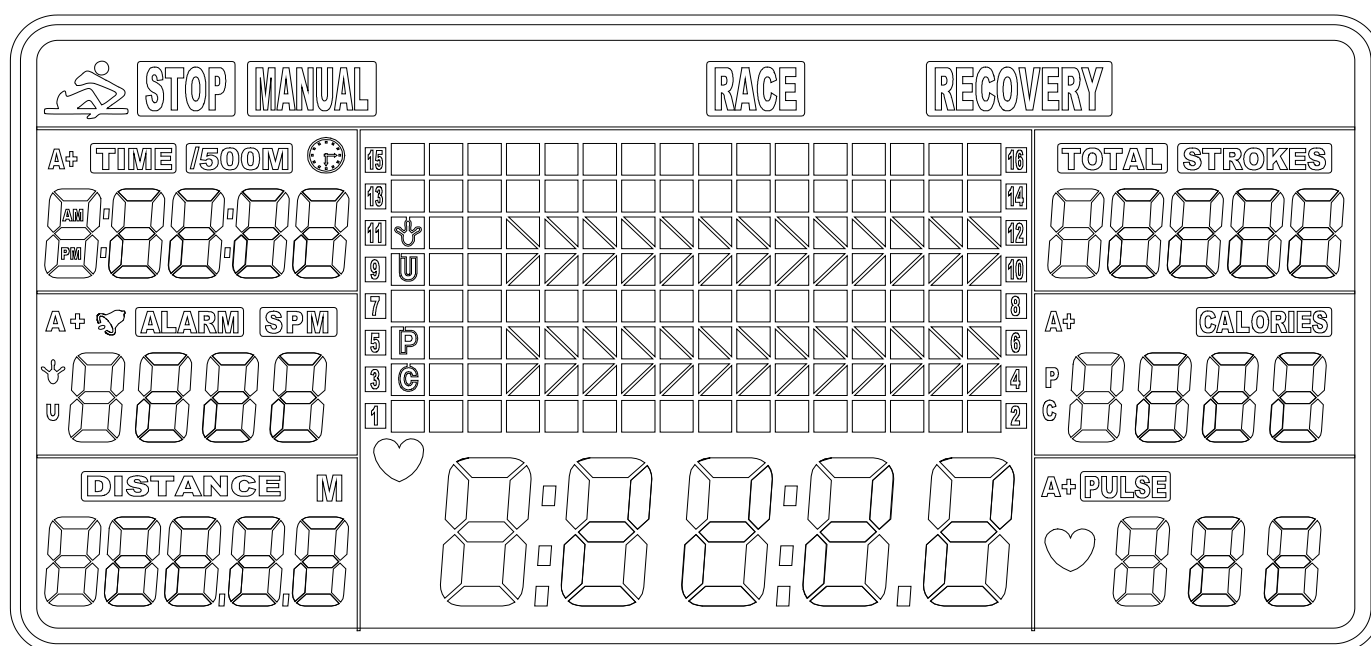
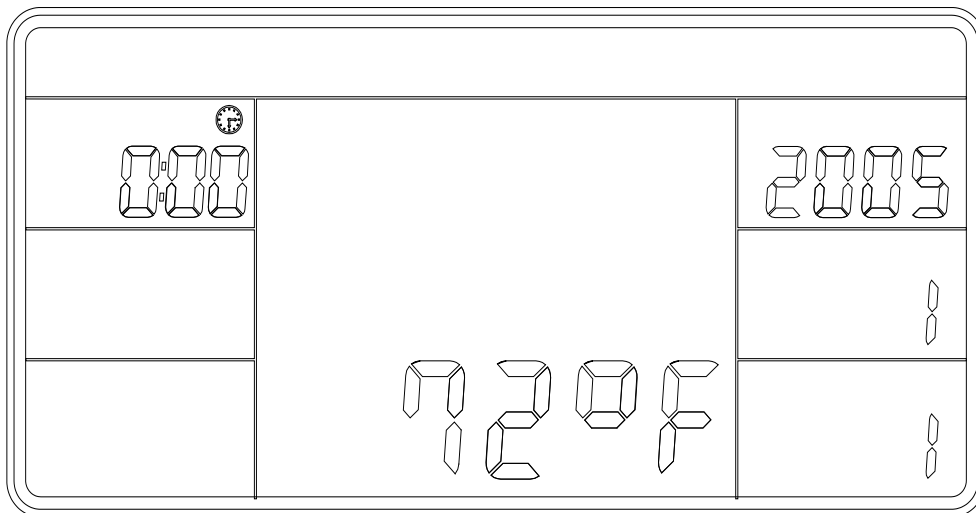

Fig. 1
Fig. 2
1. Install 2 PCS AA batteries (included) and meter will beep for 2 seconds (Fig.1). Then, the meter enters into the CLOCK & CALENDAR MODE (Fig.2).